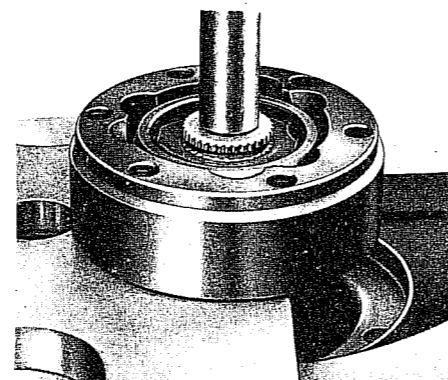

Fig. F.13. Pressing the drive shaft out of the ball hub - D/J axle.
5. Press out the drive shaft from the ball hub and remove the dished washer (Fig. F 13).